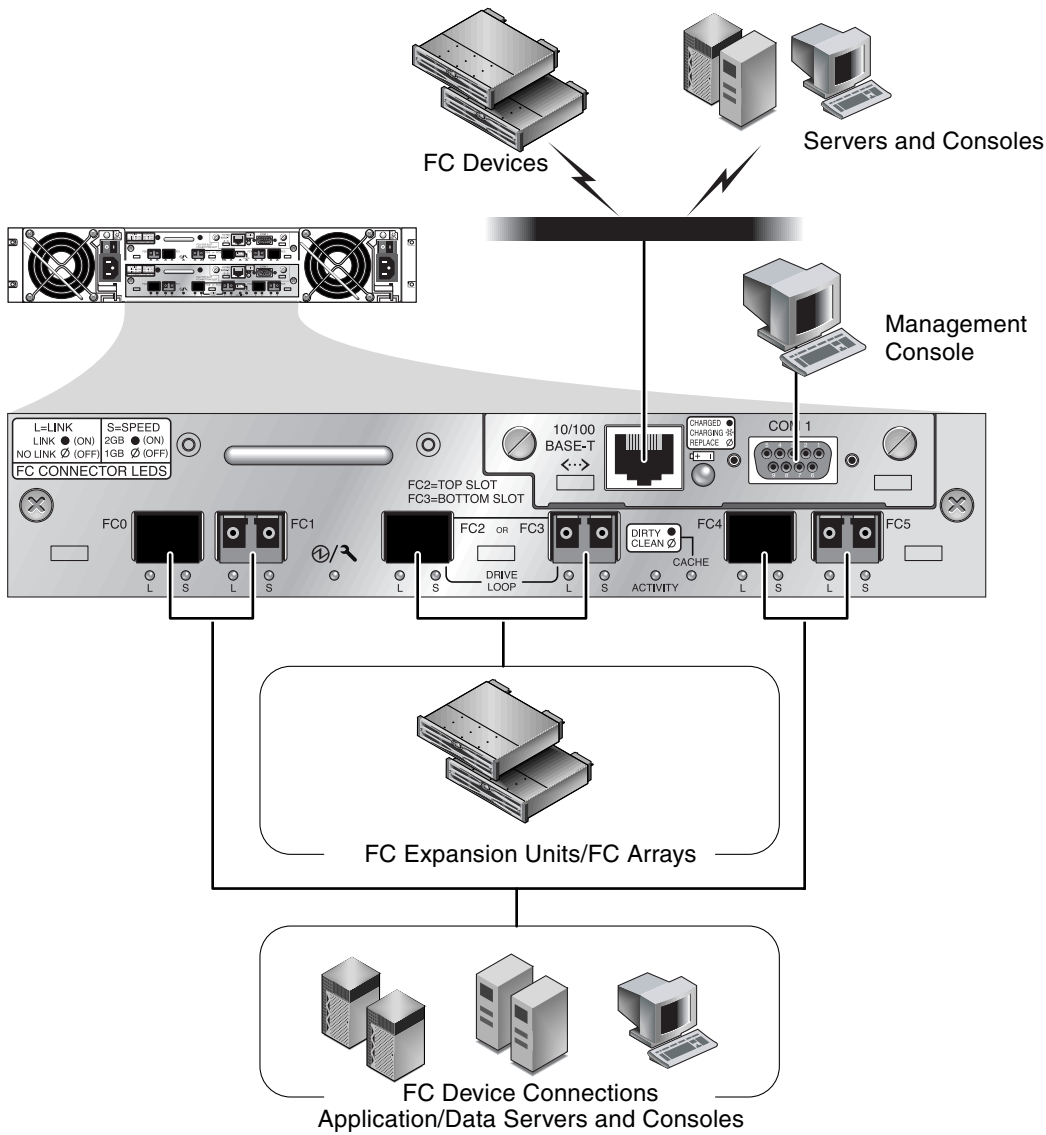

FIGURE 5-1 Hardware Connections on the Back of a Dual-Controller FC Array
2. Write down the cabling configuration for the controller-to-host connection and expansion unit connections so that you can reconnect the cables correctly with the new I/O controller module. See FIGURE 5-1.